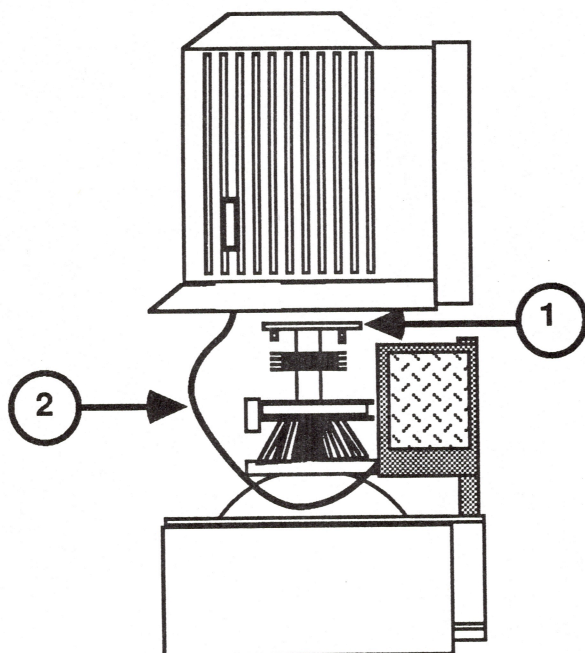

FIGURE 3
6. Carefully pull the rear cover up until it clears the CRT socket board (Figure 3, #1) at the end of the CRT neck.
**CAUTION:** Because the power switch is attached to the rear cover, the cover cannot be completely removed until the switch cable (Figure 3, #2) is disconnected from the power supply board, as directed in Step 9 below.